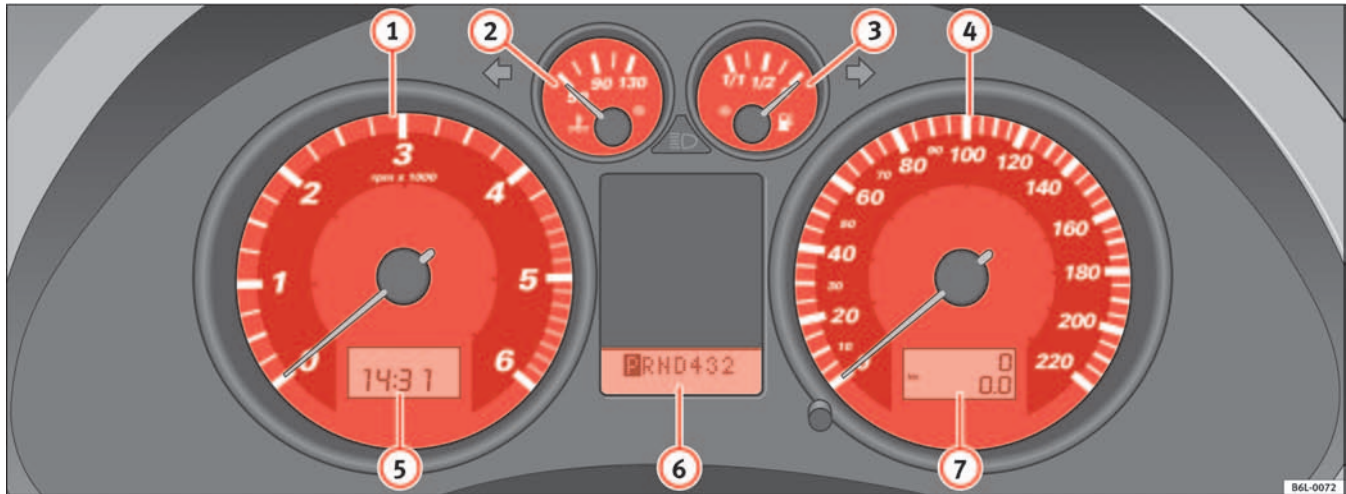

Fig. 31 Detail of the dash panel: Instruments
The start of the red zone on the dial ⇒ page 50, fig. 31 ① indicates the maximum engine speed which may be used briefly when the engine is warm and after it has been run-in properly. However, it is advisable to change up a gear or move the selector lever to D (or lift your foot off the accelerator) before the needle reaches the red zone.
- Turn the setting knob ⇒ page 50, fig. 31  anti-clockwise to the stop to set the hour. If the knob is turned briefly anti-clockwise the clock will advance one hour further.